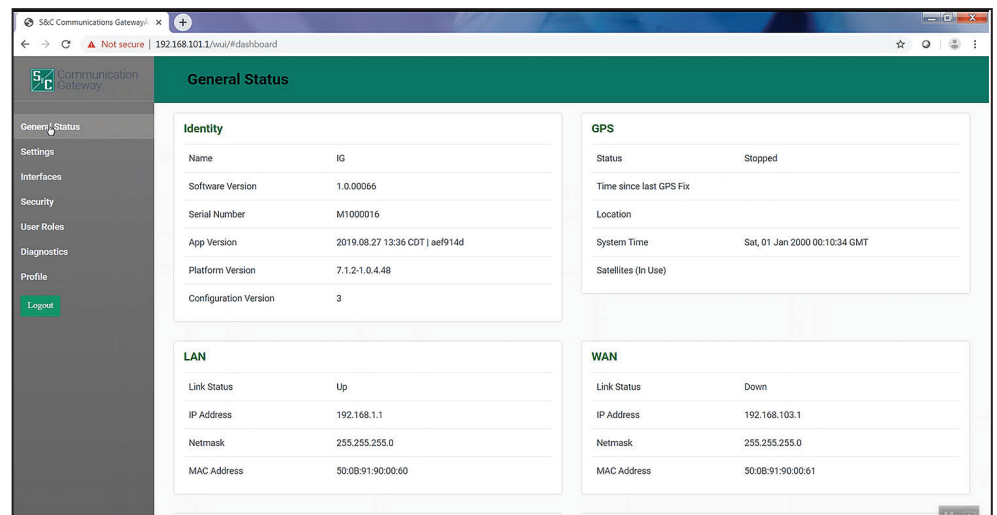
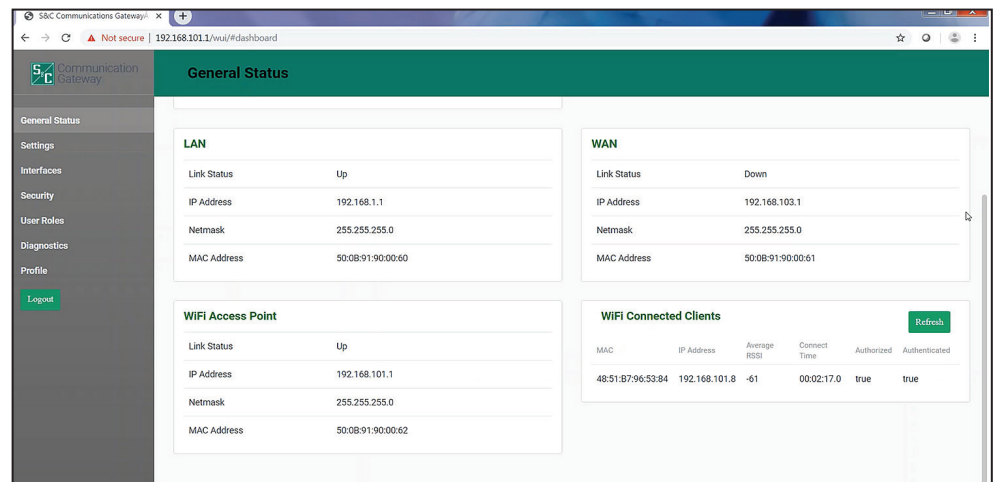

Figure 7. The top of the *General Status* screen.
Figure 8. The bottom of the *General Status* screen.
STEP 5. With firmware version 2.1 and earlier, to skip this screen and keep the default password setting, click on an entry in the left menu. Figures 7 and 8 show the *General Status* screen.
The *General Status* screen is comprised of the Identity, GPS, LAN, WAN, Wi-Fi Access Point, and Wi-Fi Connected Clients panels. The Identity panel contains six fields: **Name**, **Software Version**, **Serial Number**, **App Version**, **Platform Version**, and **Configuration Version**. The GPS panel contains five fields: **Status**, **Time Since last GPS Fix**, **Location**, **System Time**, and **Satellites (In Use)**. The LAN and WAN panels contain four fields each: **Link Status**, **IP Address**, **Netmask**, and **MAC Address**. See Figure 7 on page 9. The Wi-Fi Access Point panel contains four fields: **Link Status**, **IP Address**, **Netmask**, and **MAC Address**. The Wi-Fi Connected Clients panel contains six fields: **MAC Address**, **IP Address**, **Average RSSI**, **Connect Time**, **Authorized**, and **Authenticated**. See Figure 8 on page 9.